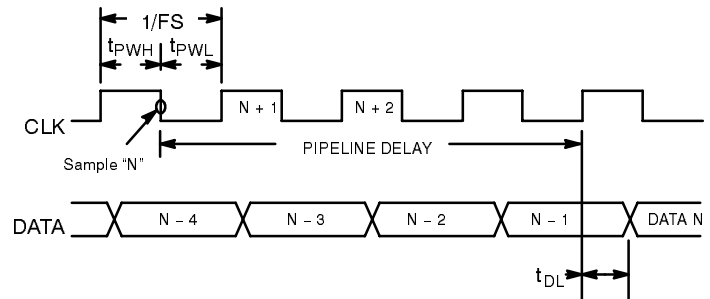

Figure 6. Data Available Timing
Clock Timing (See Figure 6.) ⁷
A full conversion (sampling V_{IN} , converting MSB & LSB, and performing any error correction) requires four clock cycles to complete (see Figure 6.) The pipelined architecture allows the chip to maintain a one conversion per cycle sample rate. Digital logic combines the MSB and LSB data and performs error correction to produce 8-bit output codes.
For systems that are battery powered, the MP8786 has a power down feature to help extend battery life. When the voltage at the V_{RT} pin drops below 0.4 V, the chip goes into power down mode. In this state, conversions are halted, the outputs are 3-stated and I_{DD} drops to less than 100 μA . Then, when the voltage at the V_{RT} pin rises above 0.9 V, the chip will power up. Note that after power up, four clock cycles are required to get valid data at the digital outputs (see Figure 6.) One way to achieve power down is to disconnect or disable the buffer/amp driving V_{RT} , and let the internal reference resistance pull V_{RT} down. Remember, any bypass capacitors at V_{RT} will increase the time for V_{RT} to drop below 0.4 V.
2. It is important to note that op amps have inductive output impedances at high frequencies which is a consequence of the emitter impedance of the typical push-pull output stage. The resulting transient ringing should be damped by inserting a resistor in series with the ADC input – typically about 50Ω . See Figure 6. The exact value may be obtained from the op amp manufacturer's data sheet.
Refer to Figure 6. for details on the data availability timing. The digital outputs should not drive long wires or buses. The capacitive coupling and reflections will contribute noise to the conversion. The output enable pin (\overline{OE}) should not be left unconnected. If it is not controlled by an active signal, it must be tied to ground.